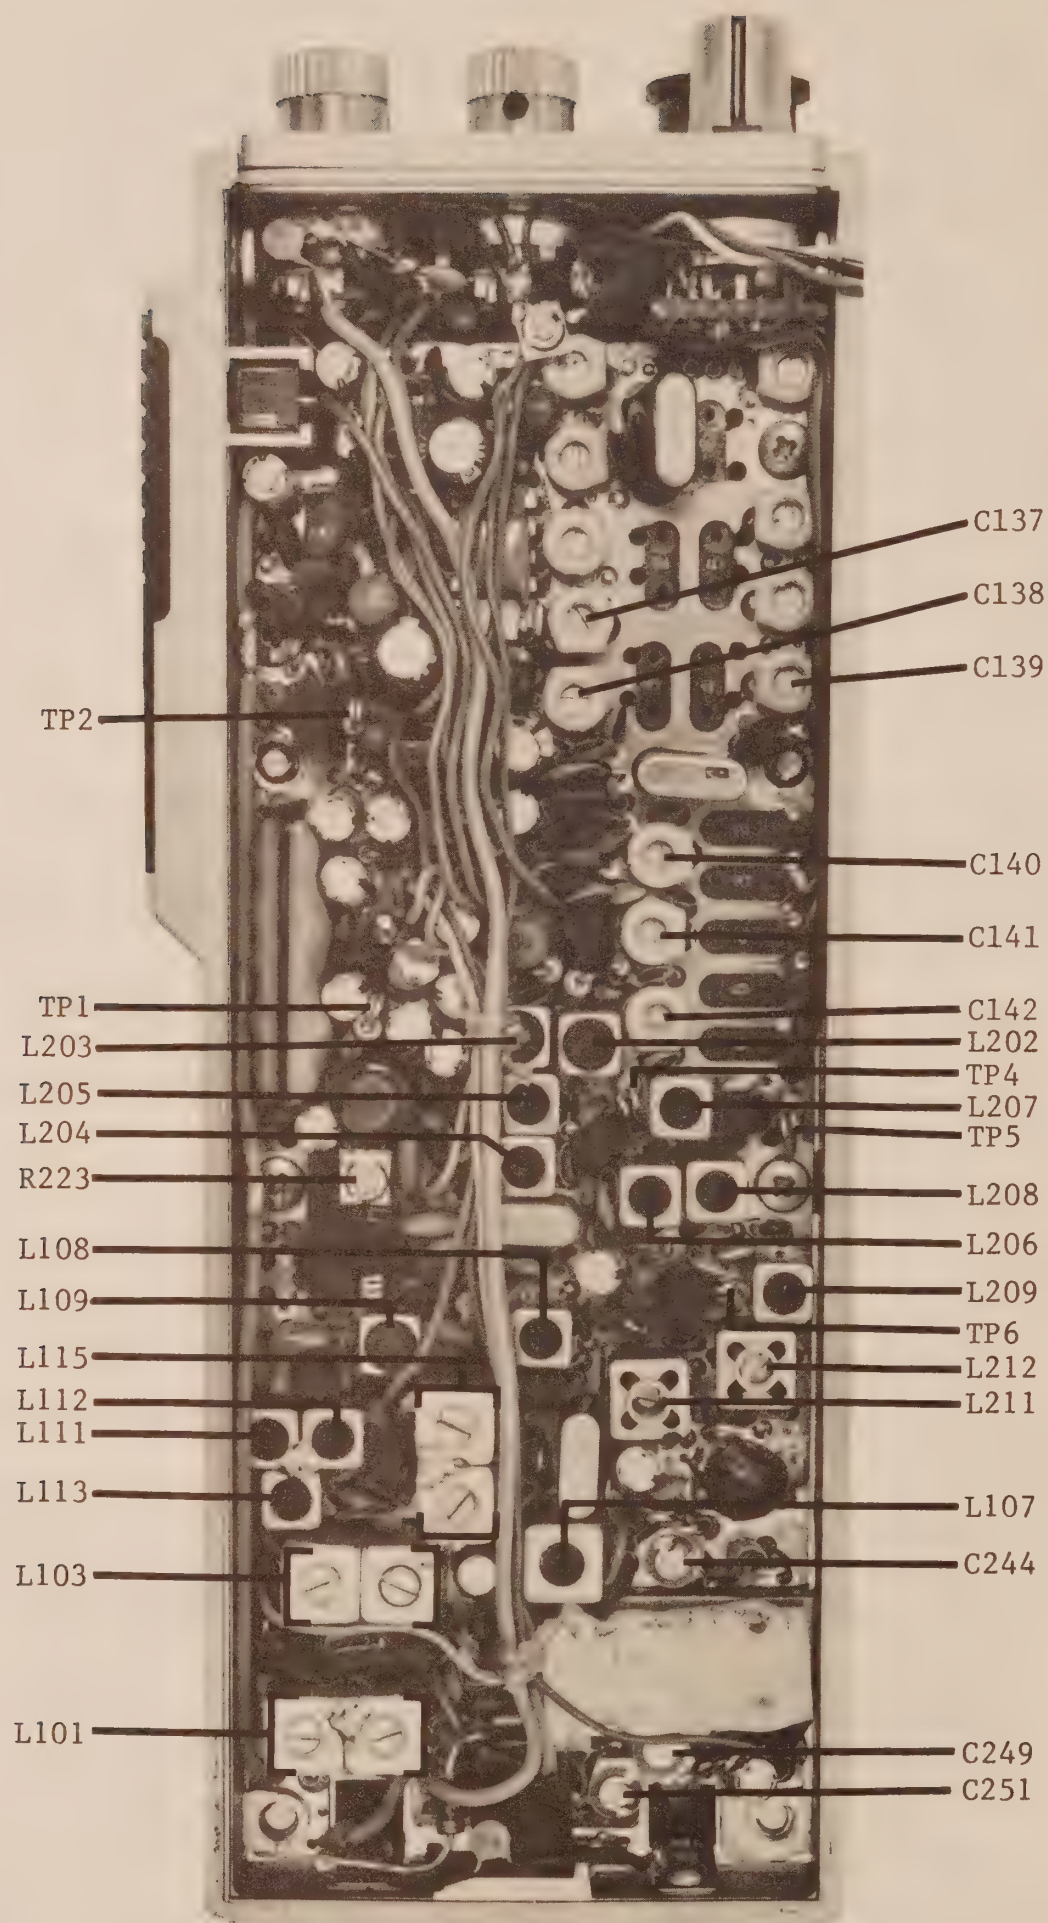
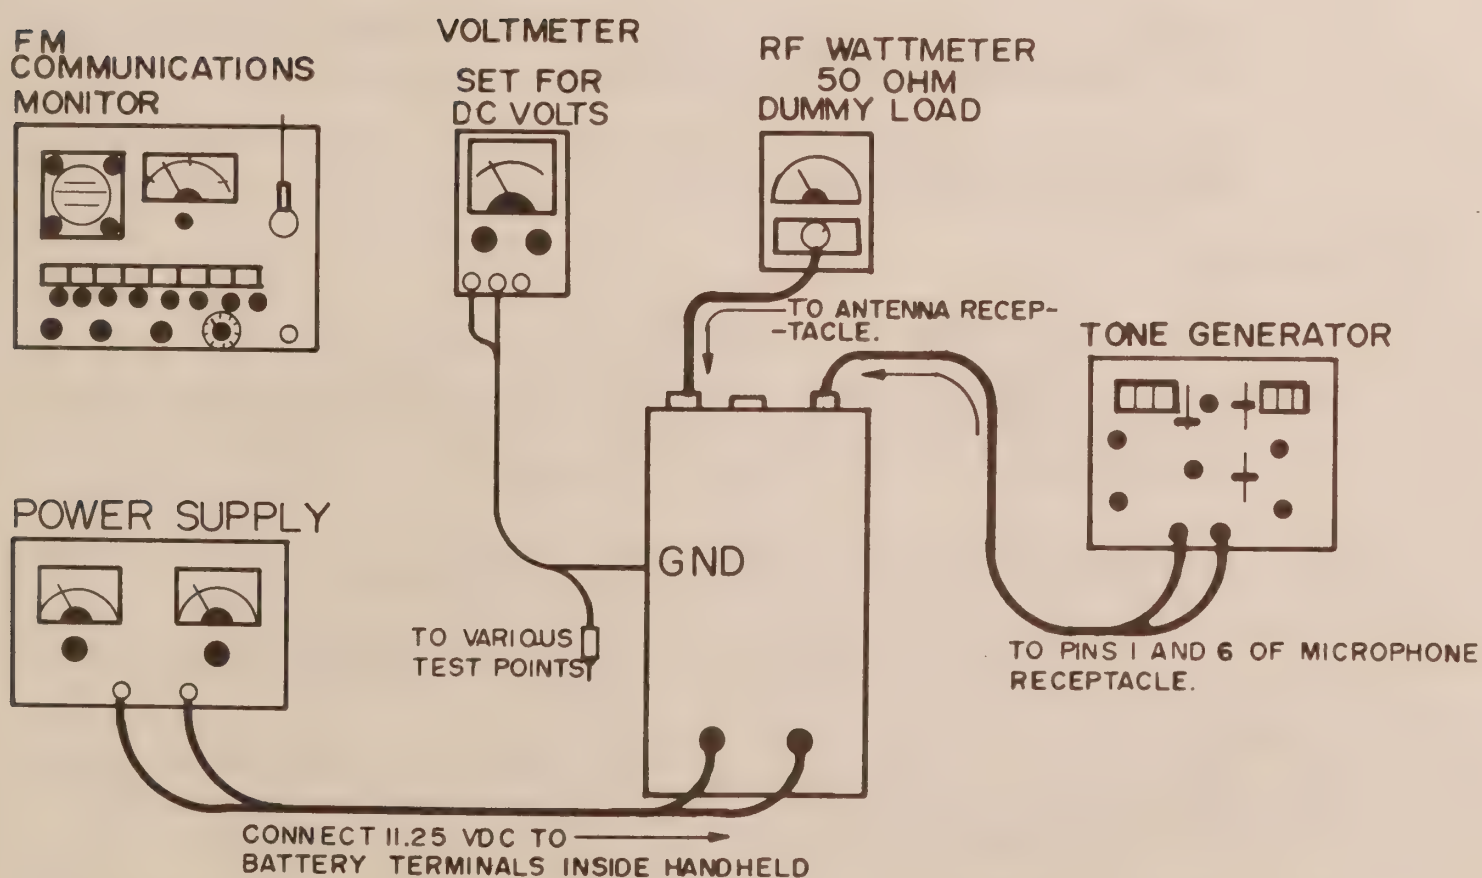

FIGURE 3. 734LC TEST AND ADJUSTMENT POINTS
FIGURE 4. 734LC TX TEST SET-UP
Remove the covers from the radio to obtain access to the test and adjustment points. Connect the radio to the specified DC source (11.25 VDC) using clips on the radio at the battery terminals. Do not connect the power source to the "Charge" receptacle. Test equipment hookup for alignment is illustrated in Figures 4, 5, 6, and 7. Location of test and adjustment points is illustrated in Figure 3.
1. Connect test equipment as shown in Figure 4.